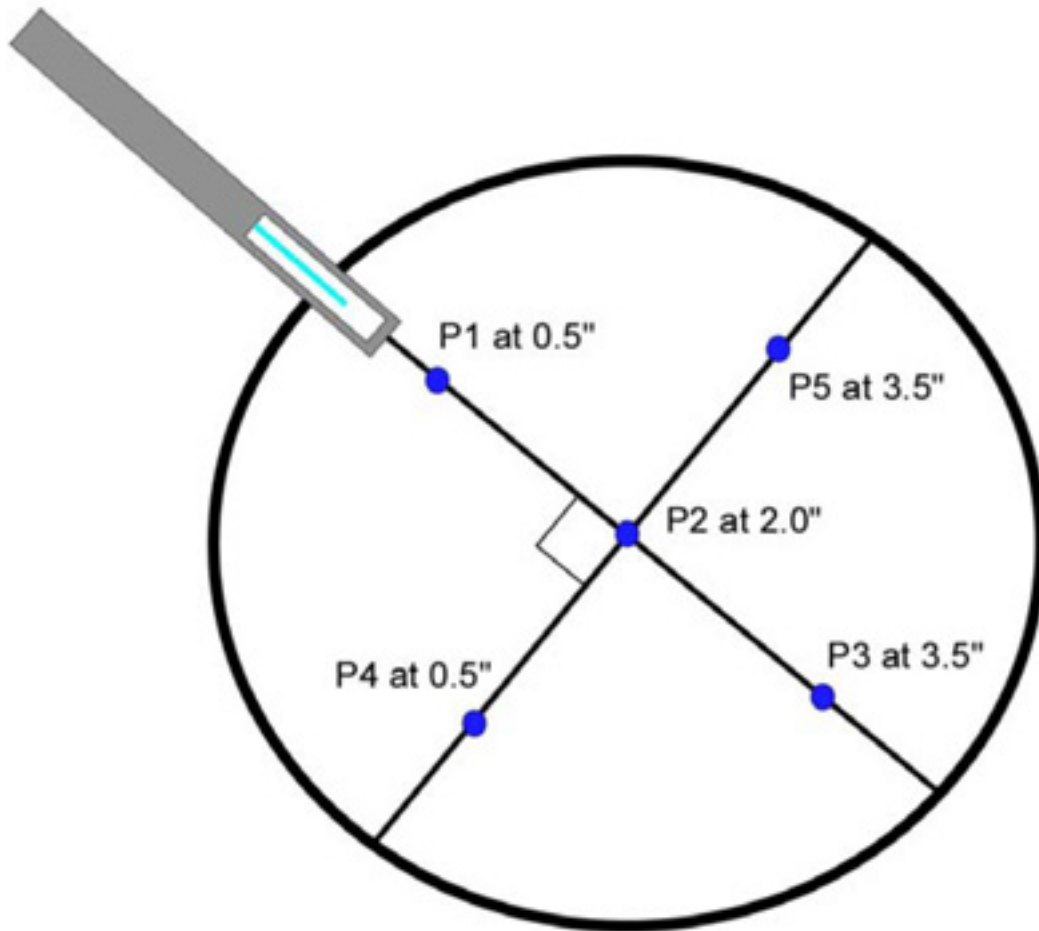

Figure 10. Measurement Locations for Node 2 Flex Duct.
17.4.2 Using the ruler, take 5 measurements along 2 diameters perpendicular to one another from the outer edge of the Node 2 flex duct outlet. Refer to figure 10.